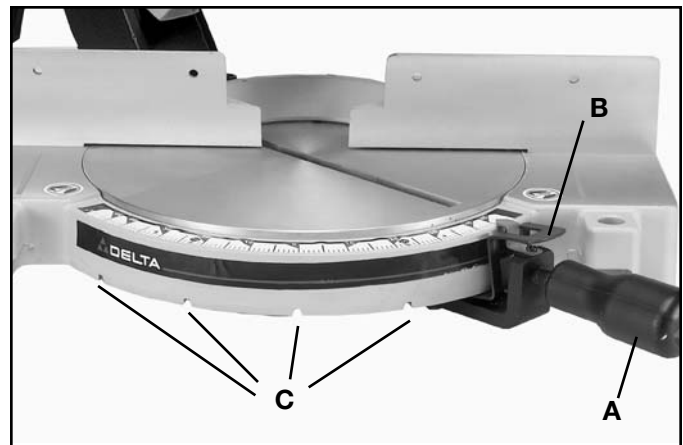

Fig. 14
Your miter saw will cut any angle from a straight 90 degree cut to 47 degrees right and left. Simply loosen lock handle (A) Fig. 14, one or two turns, depress index lever (B) and move the control arm to the desired angle. THEN TIGHTEN LOCK HANDLE (A).
The miter saw is equipped with positive stops at the 0, 22-1/2 and 45 degree right and left positions. Simply loosen lock handle (A) Fig. 14, and move the control arm until the bottom of the index lever (B) engages into one of the positive stops, four of which are shown at (C). THEN TIGHTEN LOCK HANDLE (A). To disengage the positive stop, depress index lever (B).
**IMPORTANT: ALWAYS TIGHTEN LOCK HANDLE (A) FIG. 14, BEFORE CUTTING.**